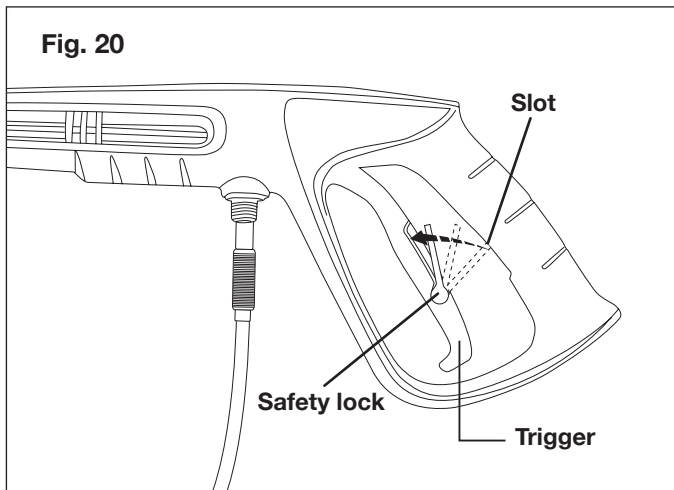

Fig. 20
2. Make sure the safety lock is down and in its original position (Fig. 20), then press the trigger for a few seconds until water flow is steady. This will allow air to escape and discharge any residual pressure in the hose.